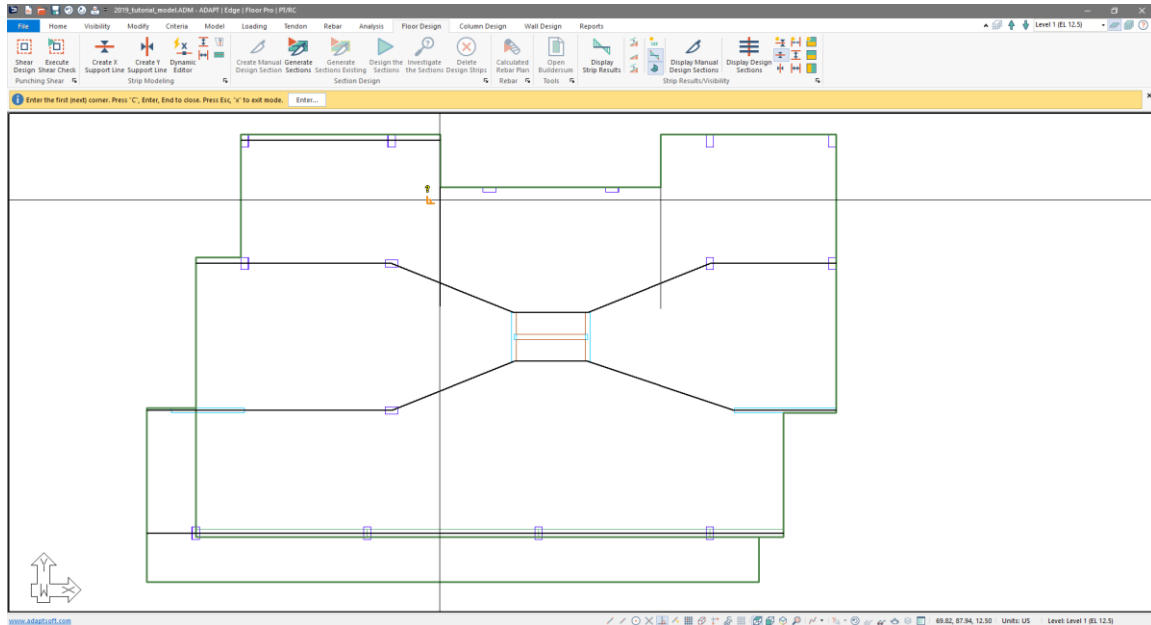

Figure 9-17
- Hover your mouse over the first construction line we entered as shown in **FIGURE 9-17**.